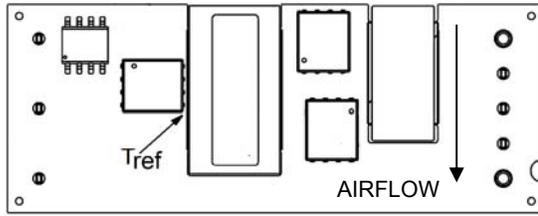

Figure 13. T_{ref} Temperature Measurement Location for Open Frame Module.
To provide protection under certain fault conditions, the unit is equipped with a thermal shutdown circuit. The unit will shutdown if the thermal reference point T_{ref} (Figure 13), exceeds $135^{\circ}C$ (typical), but the thermal shutdown is not intended as a guarantee that the unit will survive temperatures beyond its rating. The module can be restarted by cycling the dc input power for at least one second or by toggling the remote on/off signal for at least one second. If the auto-restart option (4) is ordered, the module will automatically restart upon cool-down to a safe temperature.
The thermal reference point, T_{ref} used in the specifications for open frame modules is shown in Figure 13. For reliable operation this temperature should not exceed 123°C.